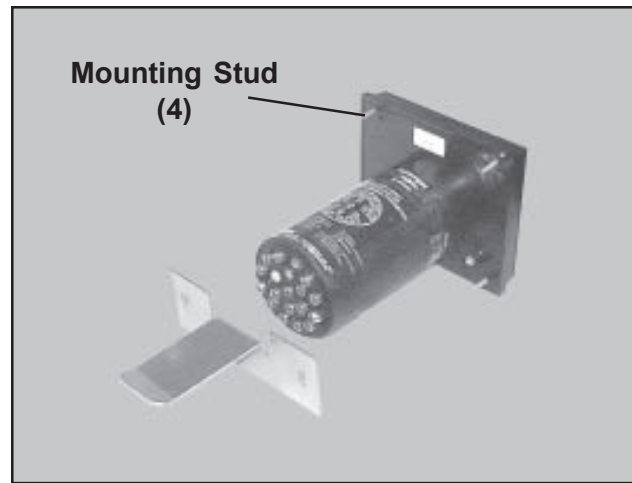

Figure 106. Oxygen Concentration Meter and Bracket
1. Put the new meter into its mounting hole in the door so that the four mounting studs pass through their holes (Figure 106).
3. Place the meter bracket on the two lower mounting studs and secure with two nuts/washers removed earlier (refer to Figure 106 for correct orientation of the bracket).